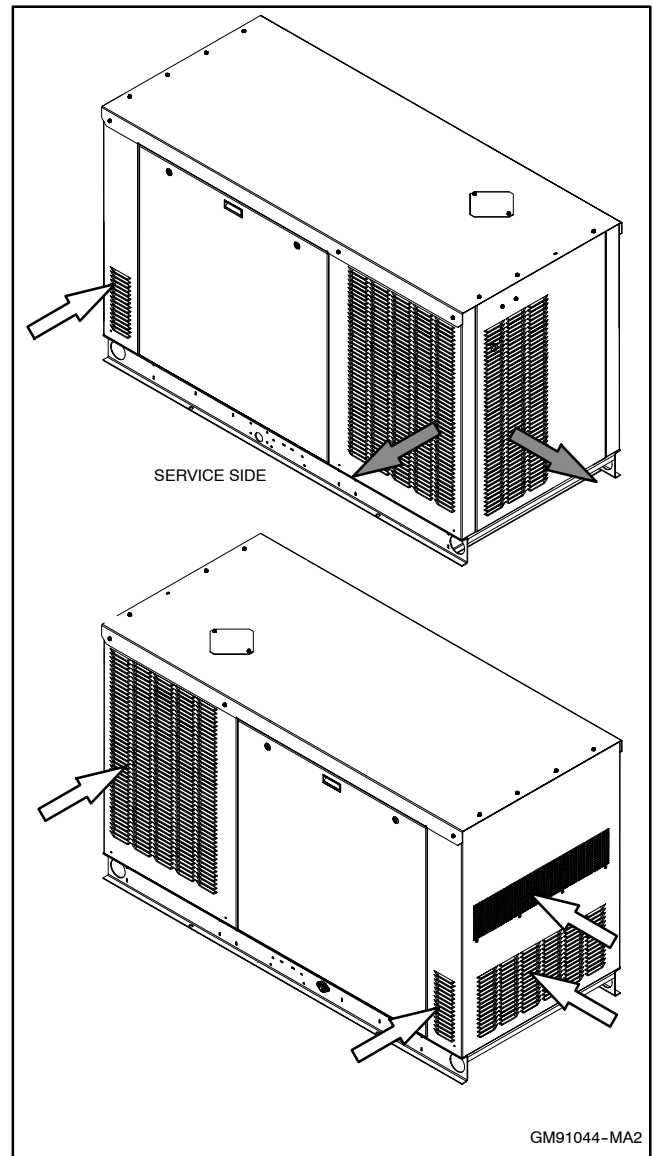

Figure 1-5 Air Intake and Exhaust
- Provide clearance for cooling air flow and access for service. See Figure 1-5 and the dimension drawings in Section 4 for required clearances from obstructions and combustible materials.